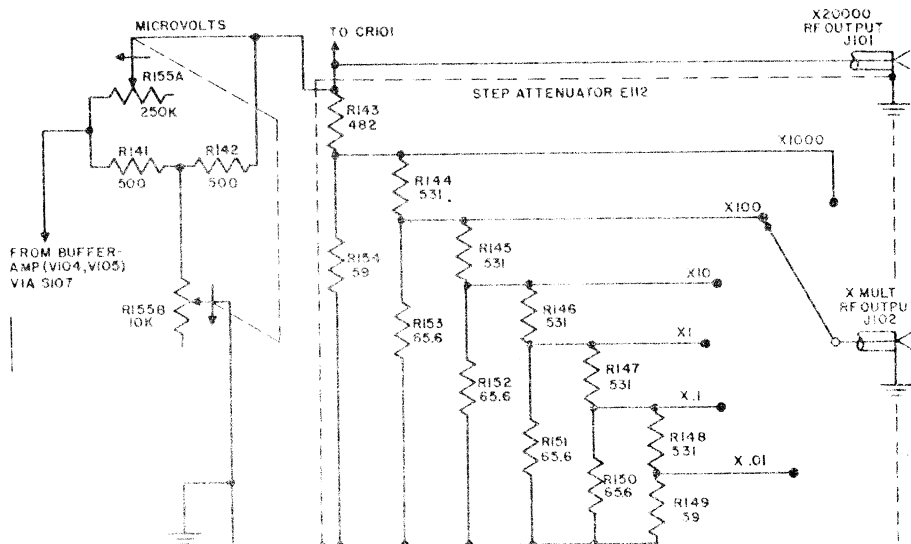

Figure 2-8. Schematic Diagram of the Variable RF Attenuator Circuit
(See figure 2-8).
a. The RF attenuator circuit consists of a step attenuator (E-112) and dual potentiometer MICROVOLTS control (R-155), both located in the shielded buffer-amplifier compartment. Both controls vary the carrier voltage applied to the X MULT RF OUTPUT jack (J-102) but only the MICROVOLTS control (R-155) affects the voltage at the X 20,000 RF OUTPUT jack (J-101). The value of the voltage at the X MULT RF OUTPUT jack (J-102) is determined by multiplying the meter (M-101) reading by the indicated position of the MULTIPLIER dial (I-104). The entire circuit is effectively resistive so that the attenuation introduced is substantially independent of frequency within the limits of the instrument. The output impedance of the attenuator system as taken from the X MULT RF jack (J-102) is constant at 53.5 ohms for any position of the attenuator MULTIPLIER dial (I-104). The attenuator (E-112) and associated circuit are shown schematically in figure 2-8.